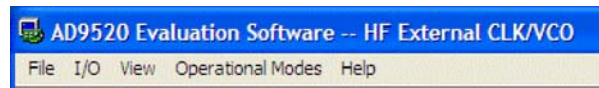
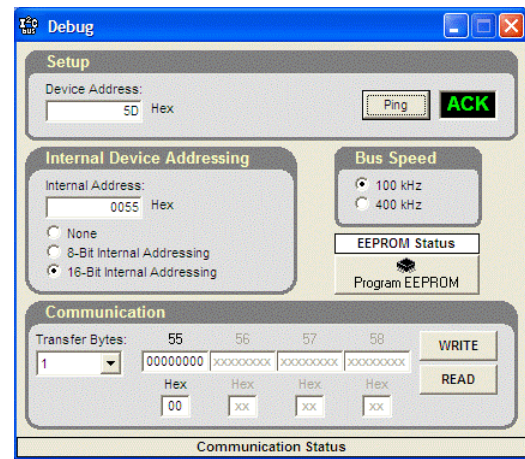

Figure 24. Menu Bar
Figure 29. Evaluation Software I²C Debug Window
7. From the **View** menu on the menu bar (see Figure 24), click **Debug**. Click the **I2C Debug** button. The window shown in Figure 29 appears.
8. Enter the I²C address set by Jumper S5 and Jumper S6 on the AD9520 evaluation board, and click **Ping**. The user sees a green **ACK** message as shown in Figure 29.